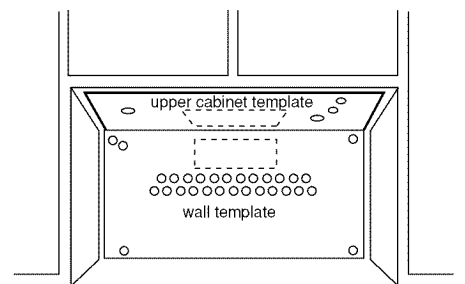

Figure 21
4. Securely tape or tack the wall template to the wall. See Figure 21.
5. Measure the bottom of the upper cabinet frame. Trim the edges "A" "B" and "C" on the upper cabinet template so that the template will fit on the bottom of the upper cabinet. If upper cabinet has a recessed frame, trim template so that it fits inside the recessed area. Align the centerline of the upper cabinet template with the centerline of the wall template; then securely tape or tack the upper cabinet template in place. See Figure 21.